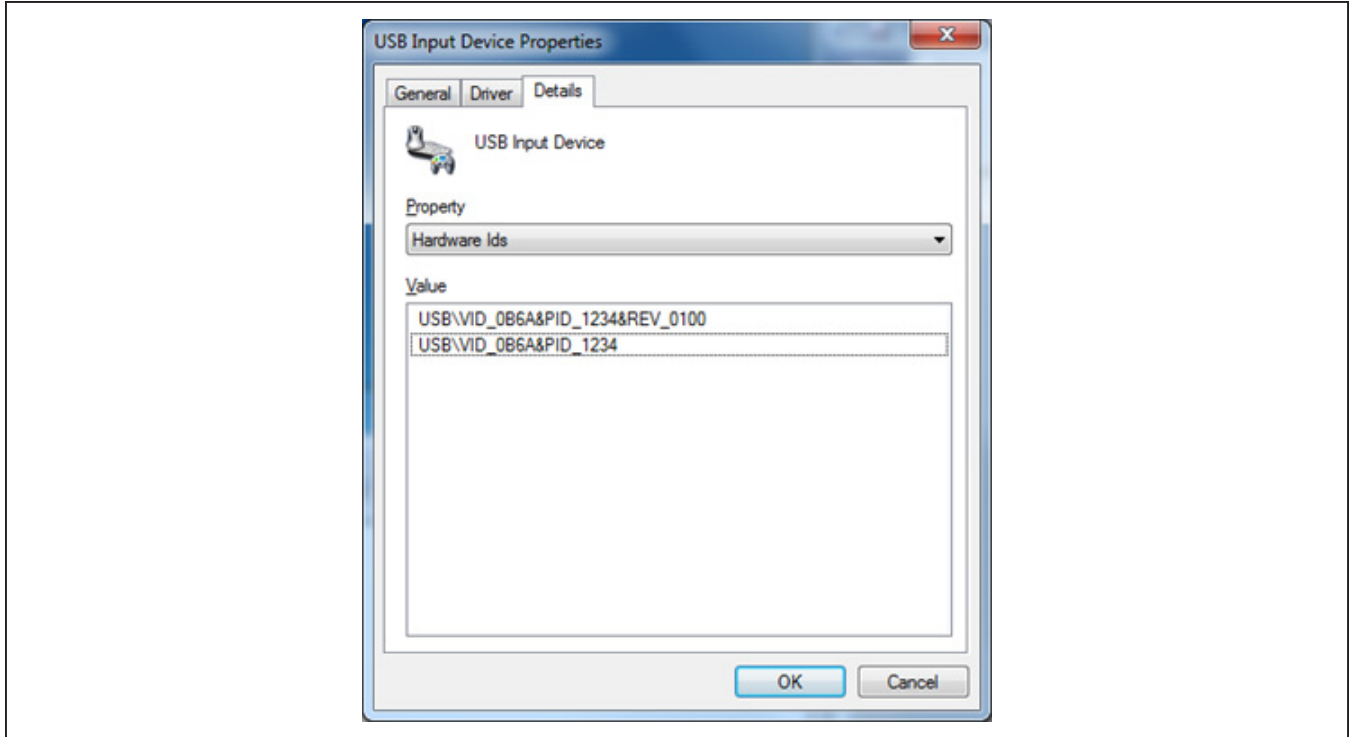

Figure 1. USB Input Device Properties
- 1) Visit www.maximintegrated.com/evkitsoftware to download the latest version of the EV kit software, 5216DACLiteRxx-LV.ZIP. Unzip the file and run the setup.exe. Follow the instructions to install the evaluation software on your PC. The program files are copied and icons are created in the Windows **Start | Programs** menu. Connect the MAX5216DACLite to the PC through a USB cable. No additional driver is needed; Windows recognizes the new device as a human interface device (HID) and automatically finds and installs the appropriate driver for it. For more information, check the device properties in: **Device Manager\Human Interface Control\USB Input Device\Properties** → **USB\VID_0B6A&PID_1234**. See Figure 1.